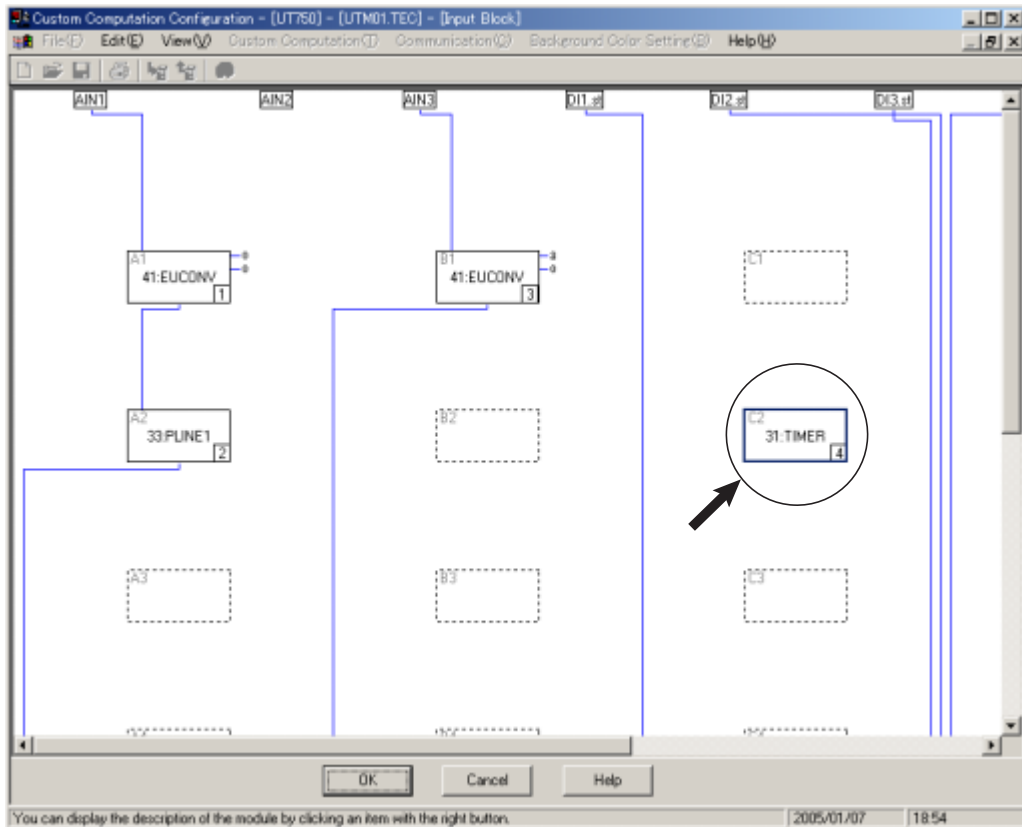

Figure 12.5.5 Example of the [Input Block] Dialog Box where the TIMER Module Is Registered As the Fourth-run Module
- (3) Click the <Special Calculation> index.
- (4) Double-click <31: TIMER>. The TIMER module is registered with the [Input Block] dialog box, as shown in Figure 12.5.5.